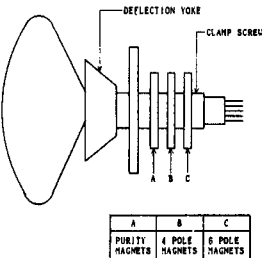

Fig. 1 Picture Tube Neck Component Location
1. Check for correct location of all neck components. (Refer to Fig. 1)